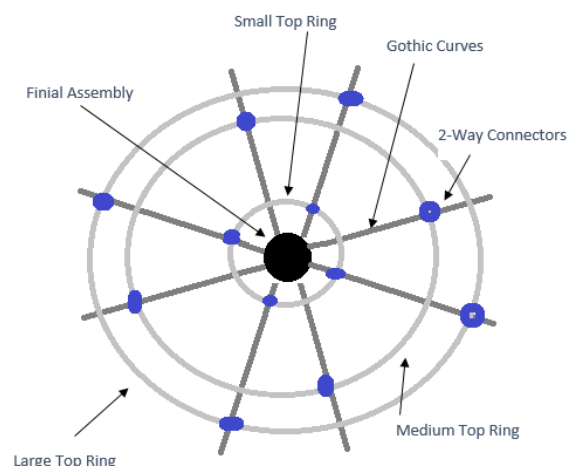

Figure 2: Attach the Top Rings
3. Slide a 2-Way connector onto 4 alternate Gothic Curves. Attach 2 x 2-Way Connectors onto each of the remaining Gothic Curves, as demonstrated in Figure 2.
8. Referring to Figure 2, push the medium top ring pieces through the 2-Way connectors on alternate Gothic Curves, ensure that the rings are on the outside of the Gothic Curves. Do not tighten the connectors.